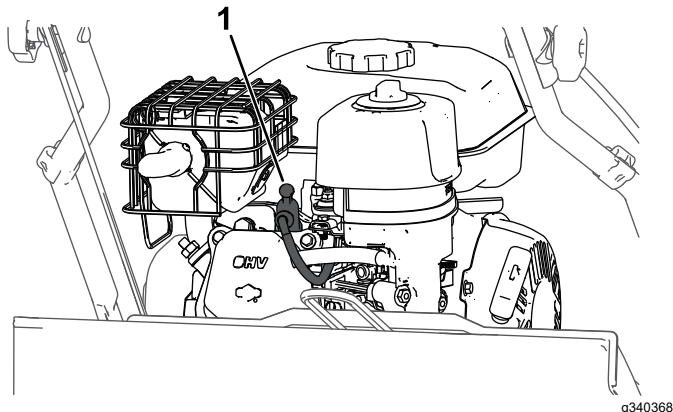

Figure 17
2. Disconnect the spark-plug wire from the spark plug (Figure 17).